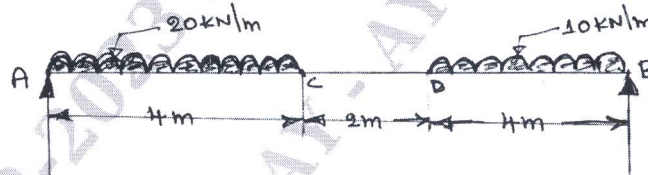

Fig.Q.6(c)
- c. Draw SFD and BMD for a simply supported beam shown in Fig.Q.6(c). (12 Marks)